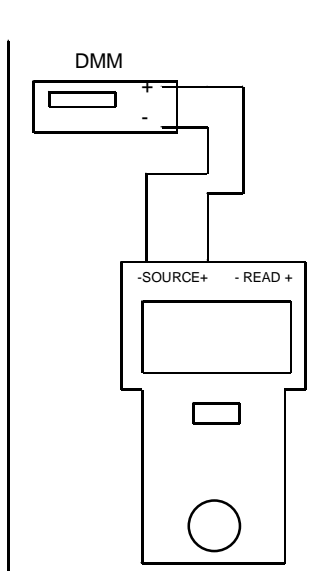

FIGURE 4
- 1) Connect the Source leads to the DVM (See Figure 4).
- 1) Leave the Source leads connected as in the mV calibration (See Figure 4).